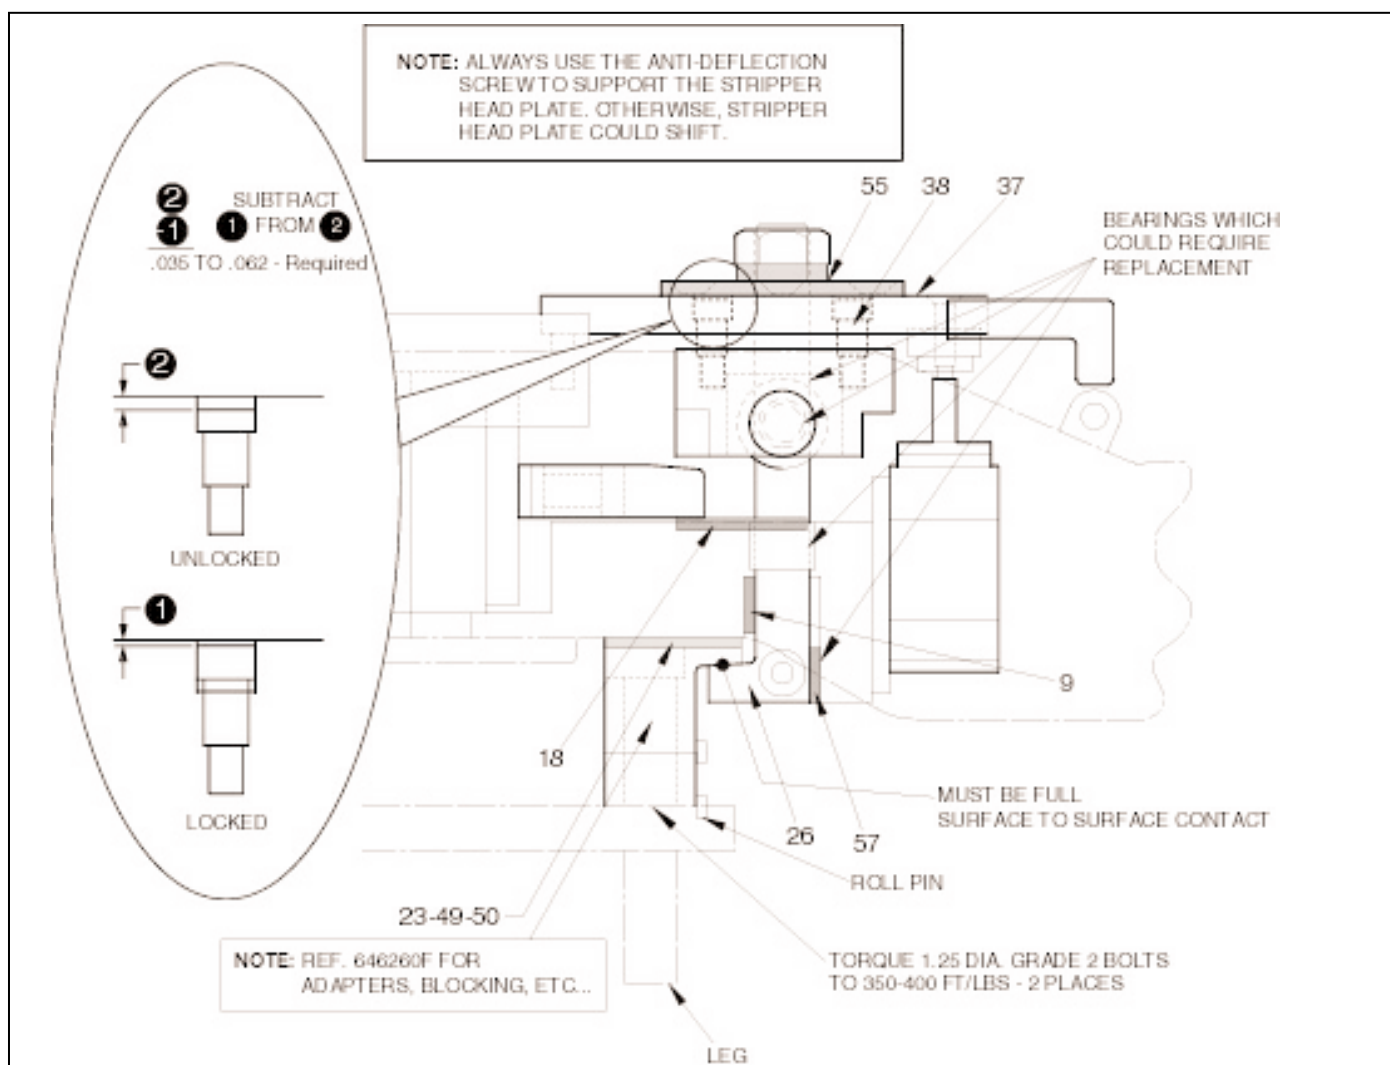

Figure 16.2 HEAD CLAMP (DRAWING #455724 – USE WITH DRAWING #455725).
It is important to check and adjust spring tensions on the lock mechanism of the head clamp at monthly intervals. It is also necessary to replace Duralon bearings (#18, figure 16.2) when they reach 0.007" [0.18mm] wear, which represents approximately 2,000 hours of work.
3. Measure top of plate (37) to top of shoulder bolt (38). See dimension 2 on figure 16.2.
5. Measure distance from top of plate (#37) to shoulder bolt (#38). See dimension 1 in figure 16.2. Use depth micrometer for measurements. Shoulder bolt motion should be 0.035" [8.89mm] to 0.062" [15.75mm].